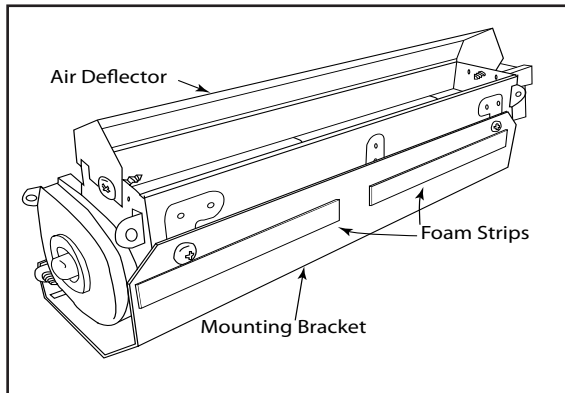

Fig. 2 Installing foam strips.
4. Peel the protective covering from the foam strips and place them to the mounting bracket as shown in Fig 2.